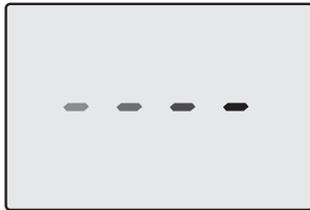
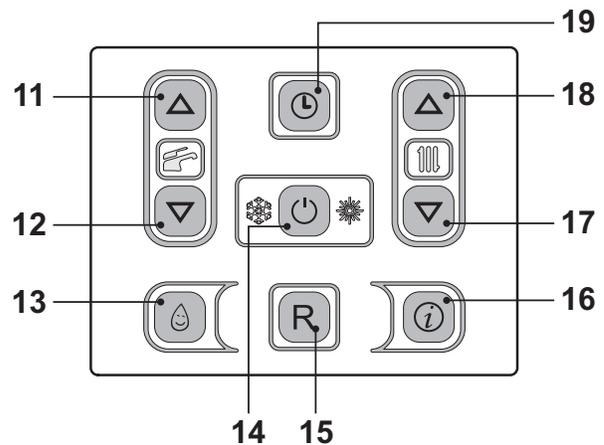

Fig. 7.7
Fig. 7.8
- Electrically power the boiler by switching on the double pole isolation switch. The LCD will display, the - - - - symbol (Fig. 7.7).
- Press the 14 key for 2 seconds until both  and  symbols appear on the display Fig. 7.8.
- Switch off the boiler by pressing the 14 (Fig. 7.8) key for 2 seconds until the - - - - symbol appears on the LCD display (Fig. 7.7).
Press the reset key on the boiler control panel 15 (Fig. 7.8) to reset its functioning.